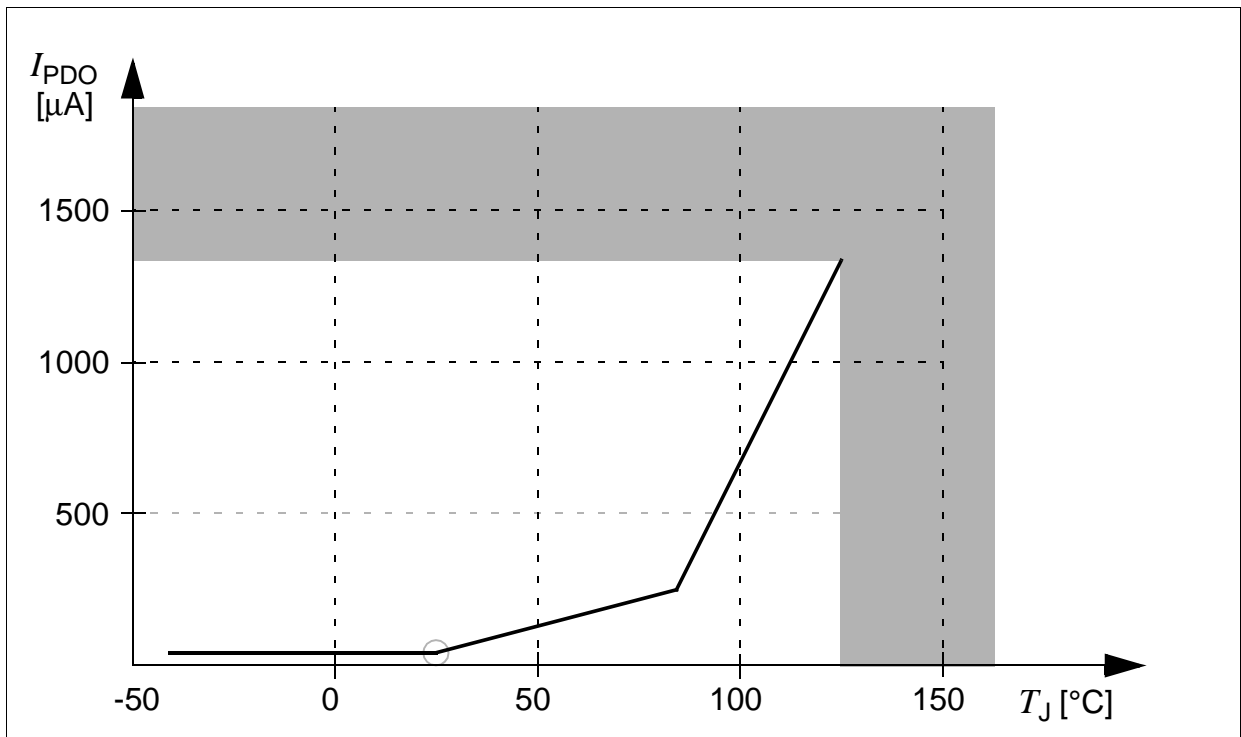

Figure 11 Sleep and Power Down Supply Current as a Function of Temperature
- 4) This parameter is determined mainly by the transistor leakage currents. This current heavily depends on the junction temperature (see Figure 11). The junction temperature T_J is the same as the ambient temperature T_A if no current flows through the port output drivers. Otherwise, the resulting temperature difference must be taken into account.